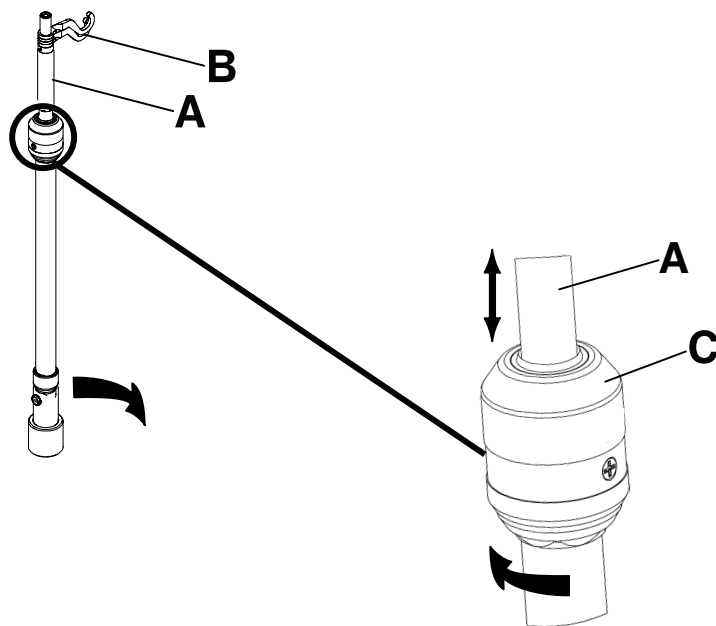

Figure 120: Operating the IV pole
3. To raise the height of the pole, pull up on the telescoping portion (A) until it locks into place at its fully raised position (Figure 120 on page 107).
4. Rotate the IV hangers to the desired position and hang the IV bags (B) (Figure 120 on page 107).
5. To lower the IV pole, turn the latch (C) until the telescoping portion lowers (Figure 120 on page 107).